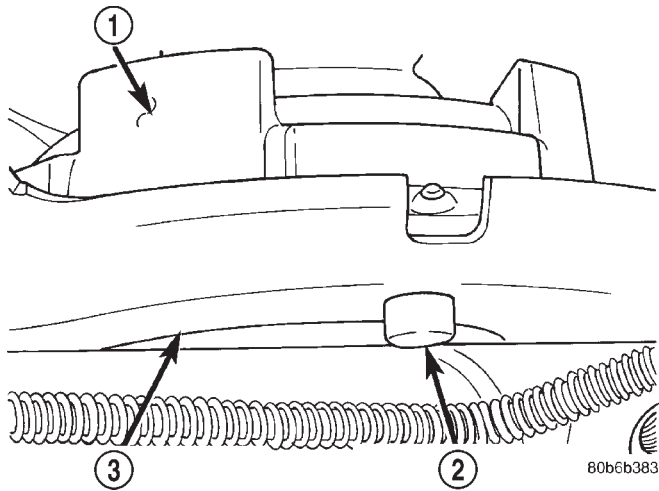

Fig. 4 Isolator Locator Nub
(2) Install the lower isolator with the isolator locator nub in the axle pad hole (Fig. 4).